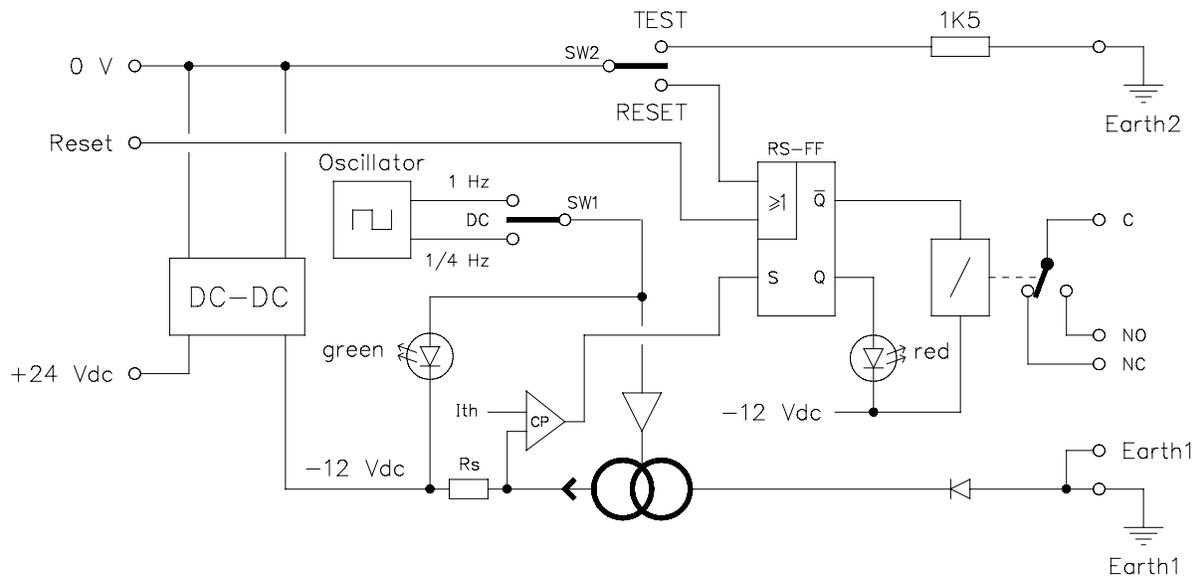

Figure 2 Block diagram of 10310/1/1 ELD
An earth fault sets the flip-flop (FF), and de-energizes the relay (see Figure 2). The flip-flop remains set until a reset is given. This can be done in two ways: